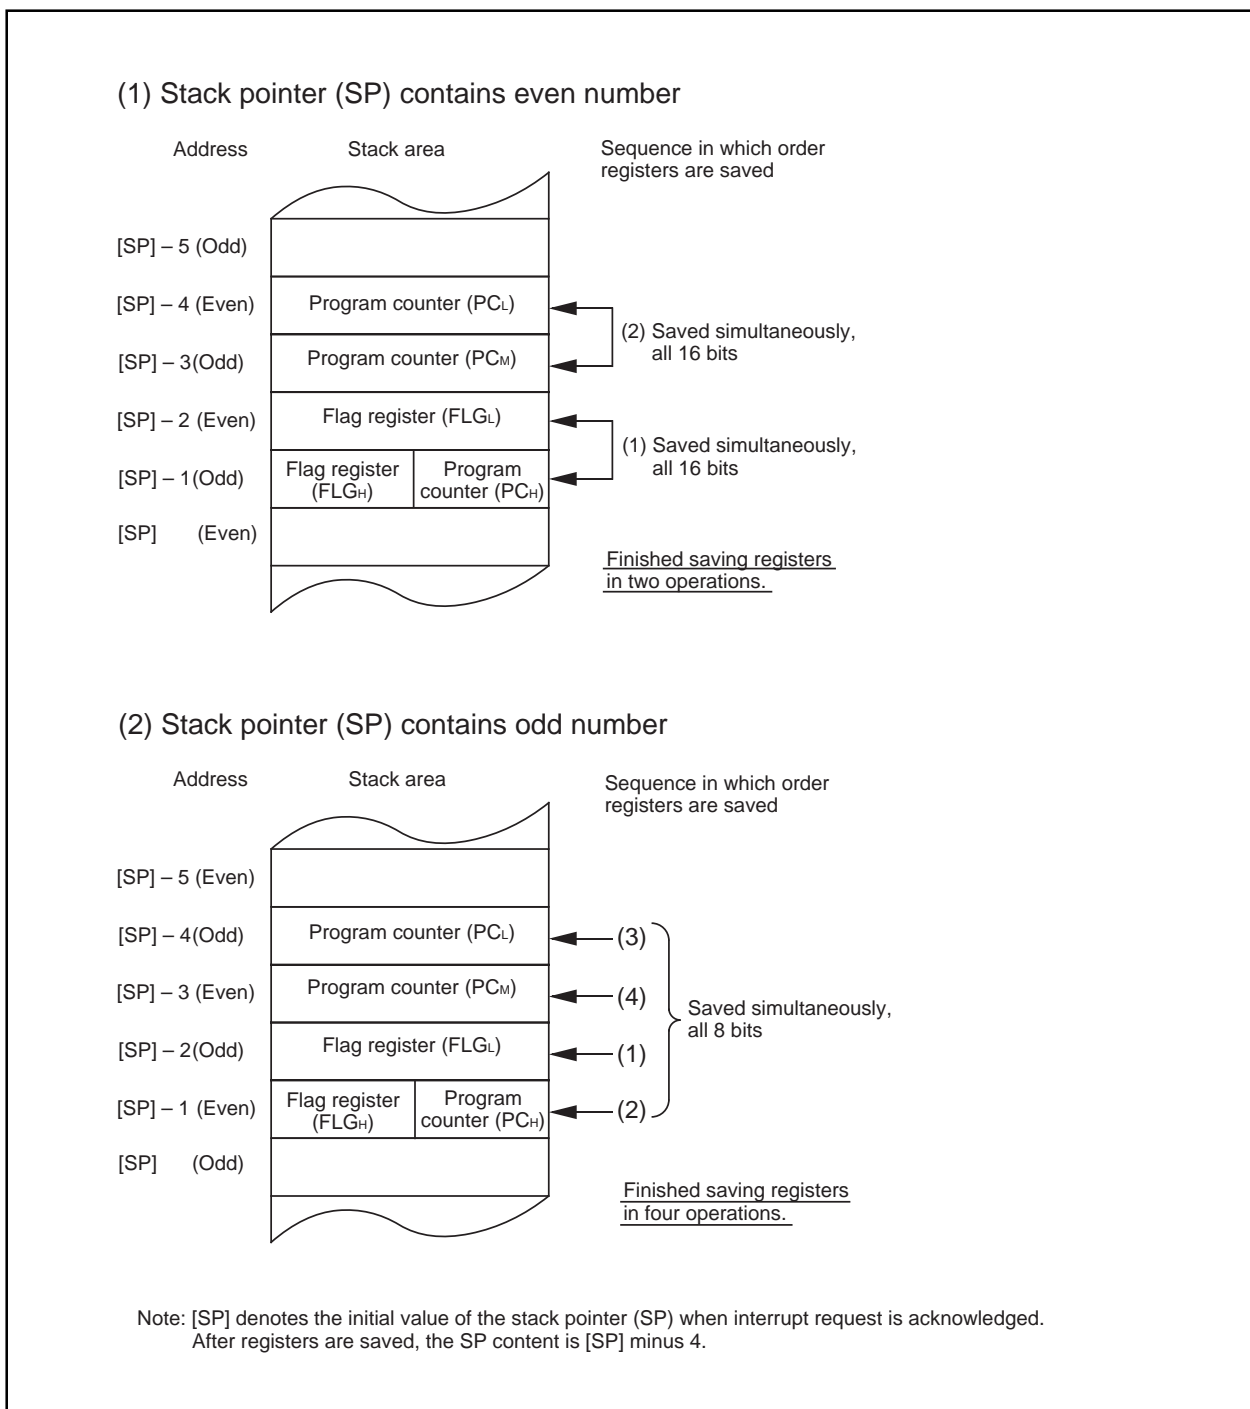

Figure 1.28. Operation of saving registers
The operation of saving registers carried out in the interrupt sequence is dependent on whether the content of the stack pointer (Note), at the time of acceptance of an interrupt request, is even or odd. If the content of the stack pointer (Note) is even, the content of the flag register (FLG) and the content of the program counter (PC) are saved, 16 bits at a time. If odd, their contents are saved in two steps, 8 bits at a time. Figure 1.28 shows the operation of the saving registers.